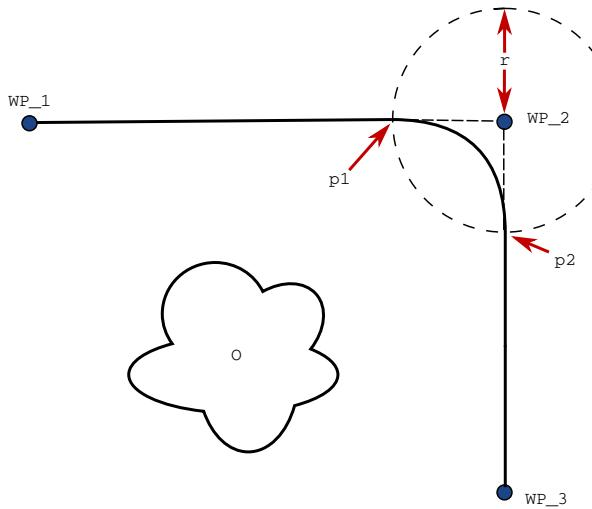

Figure 15.3: Blend over WP\_2 with radius  $r$ , initial blend position at  $p_1$  and final blend position at  $p_2$ .  $o$  is an obstacle.
**Blend parameters** Apart from the waypoints, multiple parameters will influence the blend trajectory (see figure 15.3):